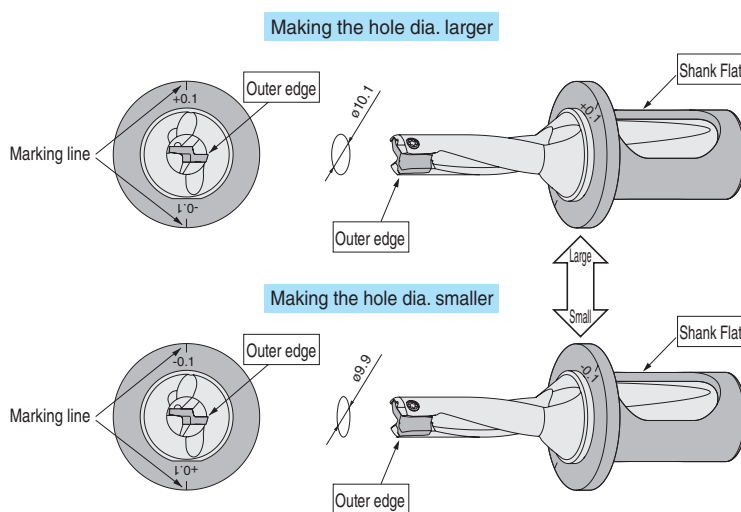

Fig. 1 Diameter Adjustment Method (e.g.) $\phi 10$ Drill
- (1) Set the outer edge horizontally with 90° to making line on the sleeve. (Fig. 1)
- (2) When making the hole diameter larger, align the +0.1 mark on the sleeve with the flat on the drill shank.
To adjust to smaller diameter, align the -0.1 mark on the sleeve with the flat on the drill shank. (Fig. 1)